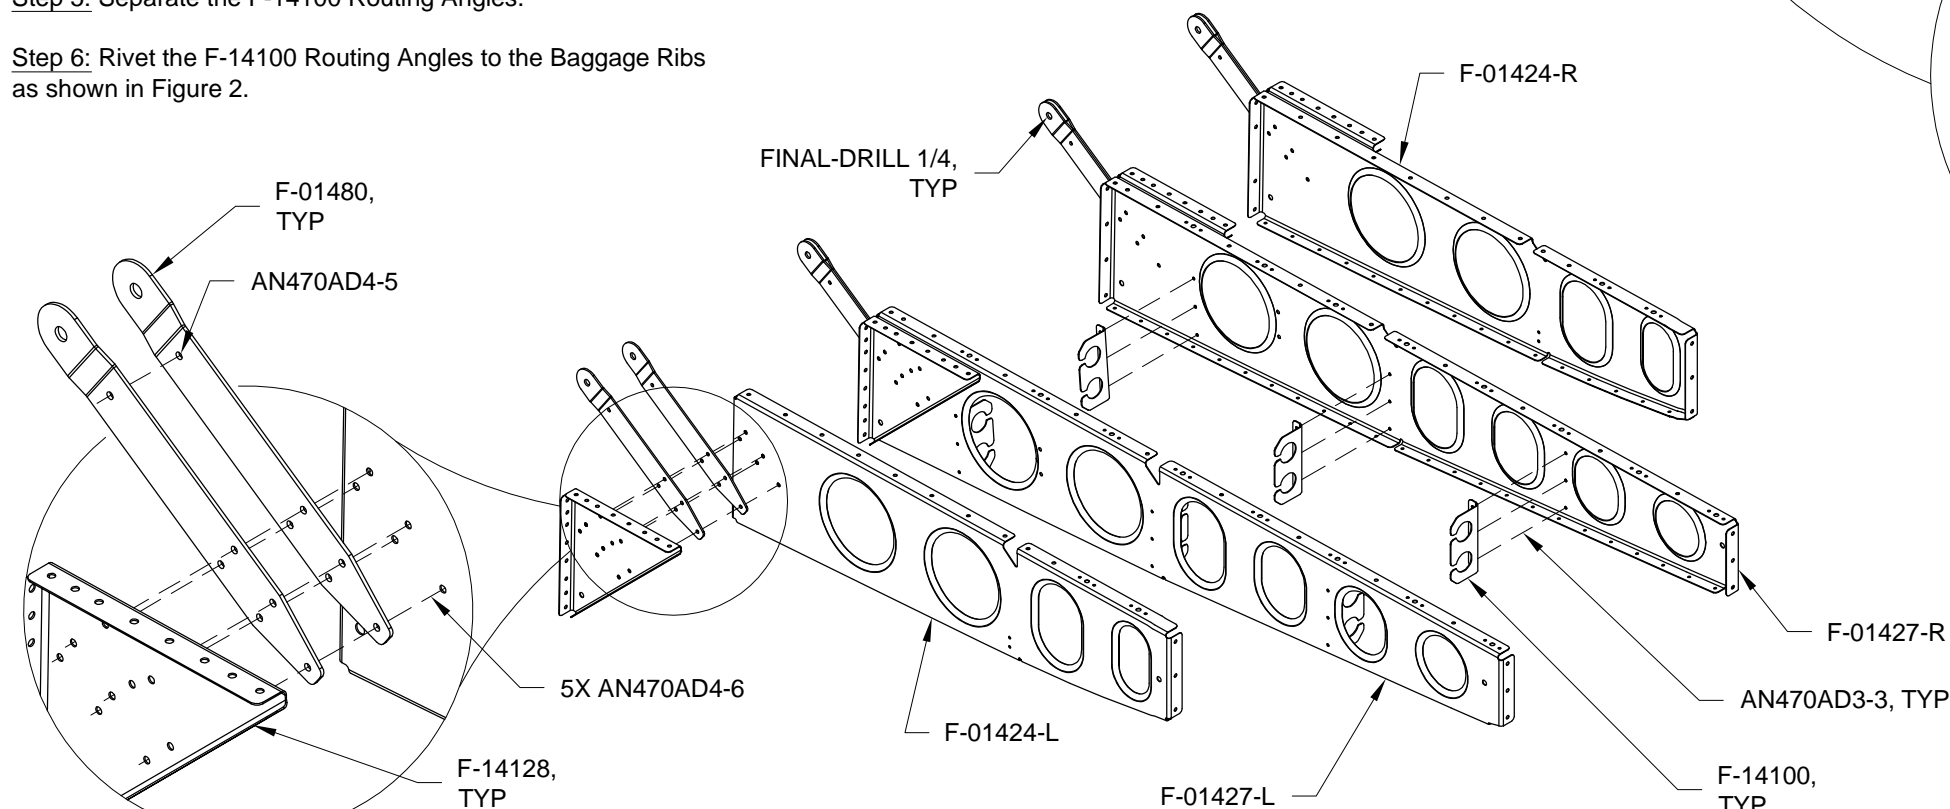

FIGURE 2: BAGGAGE RIBS
Step 6: Rivet the F-14100 Routing Angles to the Baggage Ribs as shown in Figure 2.